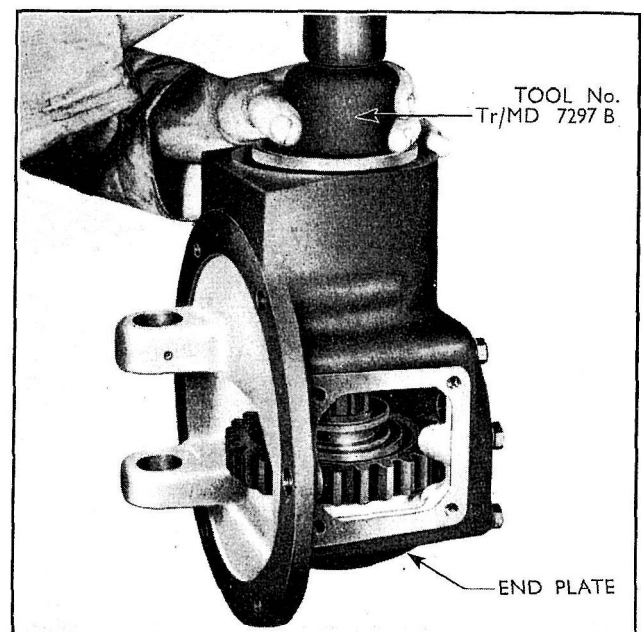

Fig. 273
- 3 Fit the tapered sleeve (Tr/D.7297) over the splines, locate the new oil seal and drive firmly into position with the adaptor Tr/D.7297B on the tool as shown in Fig. 273.